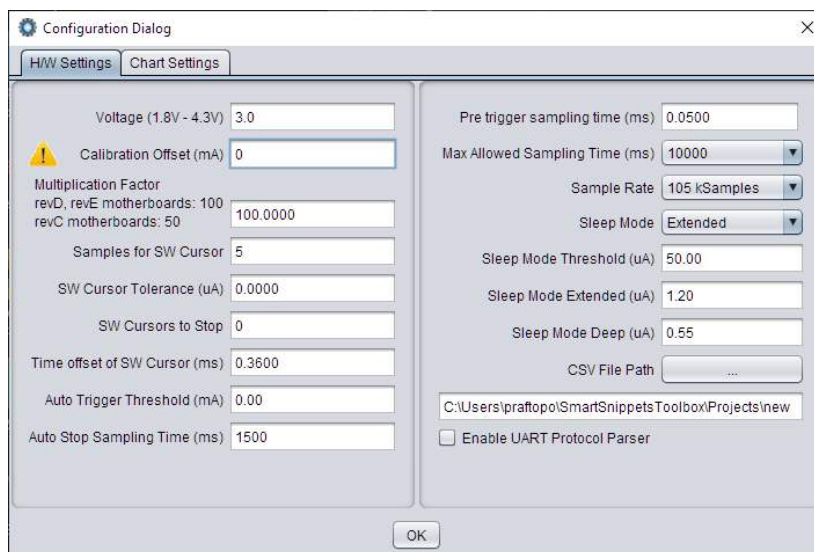

Figure 47: Setting Offset to Zero
2. In the main window of the Power Profiler, click **Config** and temporarily set the calibration offset to zero (Figure 47).